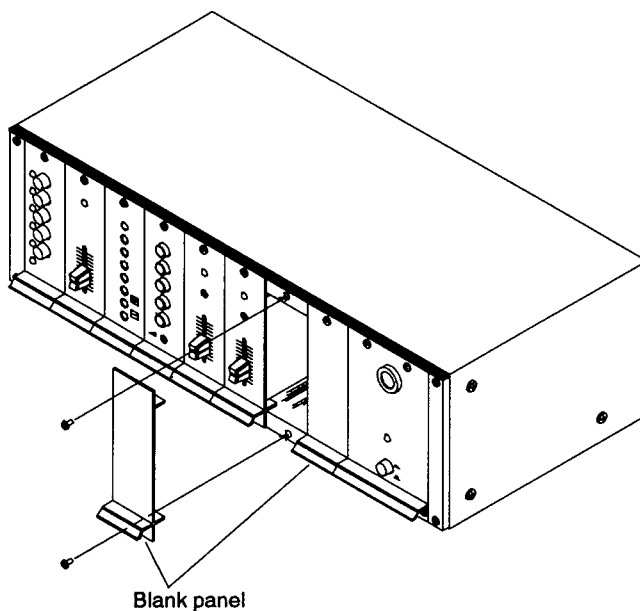

Fig.8
11. Insert the V-1082B into the slot on the right hand side of the V-1000B's front and fix the module at 4 places using the supplied screws. In this event, mount a blank panel on the left hand side of the V-1082B power supply module. It must also be seen to that all other uncovered slots are covered with the blank panel. (Figure 8)